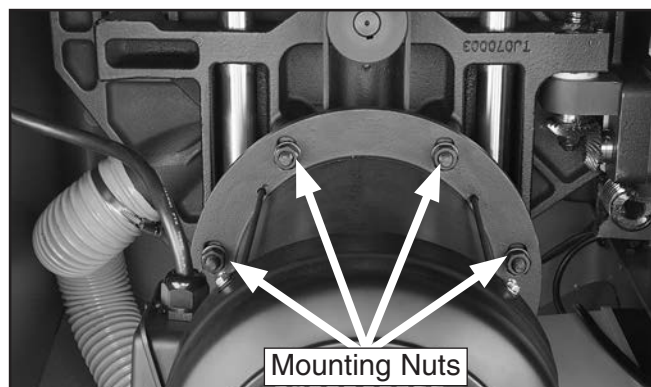
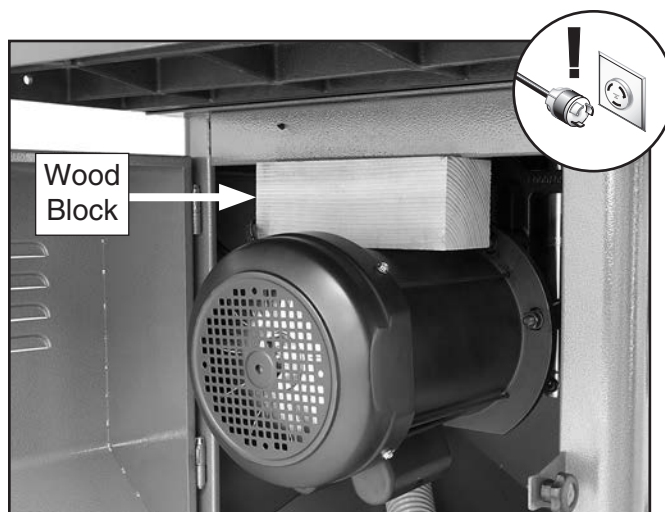
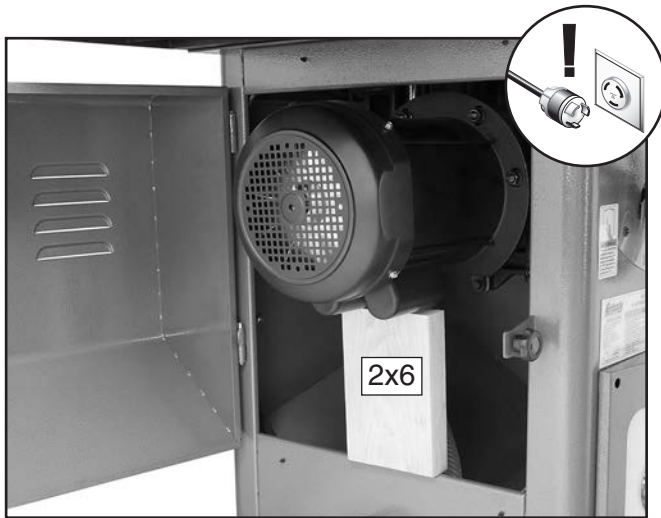

Figure 147. Motor mounting nuts.
Figure 148. Example of using wood block to tension belt.
Figure 150. Motor resting on wood block.
3. Loosen the four motor mounting hex nuts shown in **Figure 147** two turns, then place the 4x4 wood block on top of the motor, as shown in **Figure 148**.
3. Loosen the four motor mounting hex nuts (**Figure 147**) two turns, and place the 2x6 block between the cabinet and bottom of the motor, as shown in **Figure 150**.
4. Lower the arbor assembly until the motor rests on the wood block, as shown in **Figure 150**, then turn the handwheel an additional turn in the same direction to reduce tension on the belt.